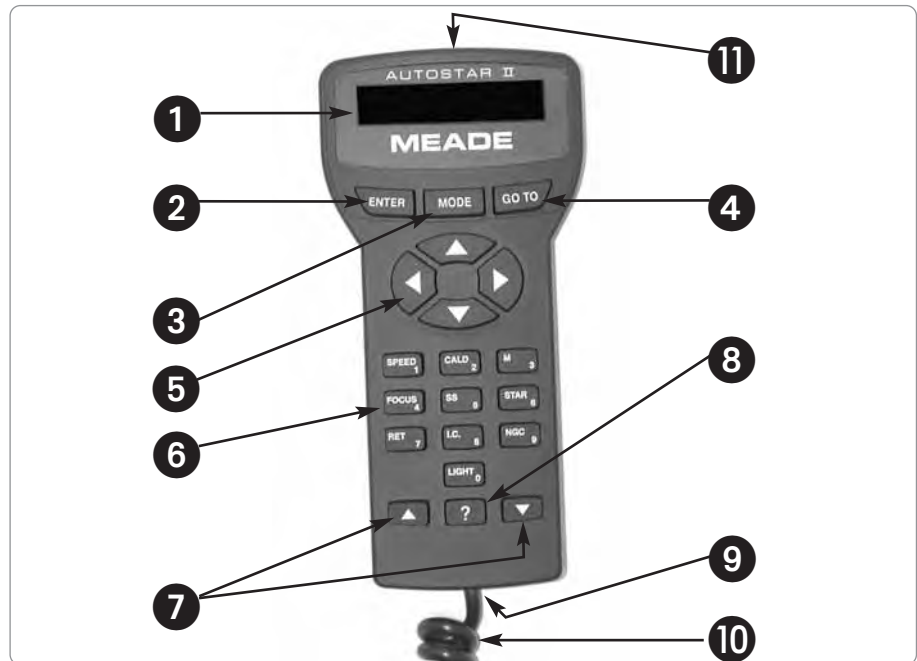

Fig. 2: The AutoStar II Handbox.
Note: If MODE is pressed and held for two seconds or more, information about the telescope's status displays. When the status displays, press the Scroll keys (Fig. 2, 7) to display the following information:
Additionally, use the Arrow keys to move the cursor across the display: Use the Right or Left Arrow key (Fig. 2, 5) to move the cursor from one number to the next in the display.
- 9 Coil Cord Port:** Plug one end of the AutoStar II coil cord (**Pg. 10, Fig. 2, 10**) into this port located at the bottom of the AutoStar II handbox.